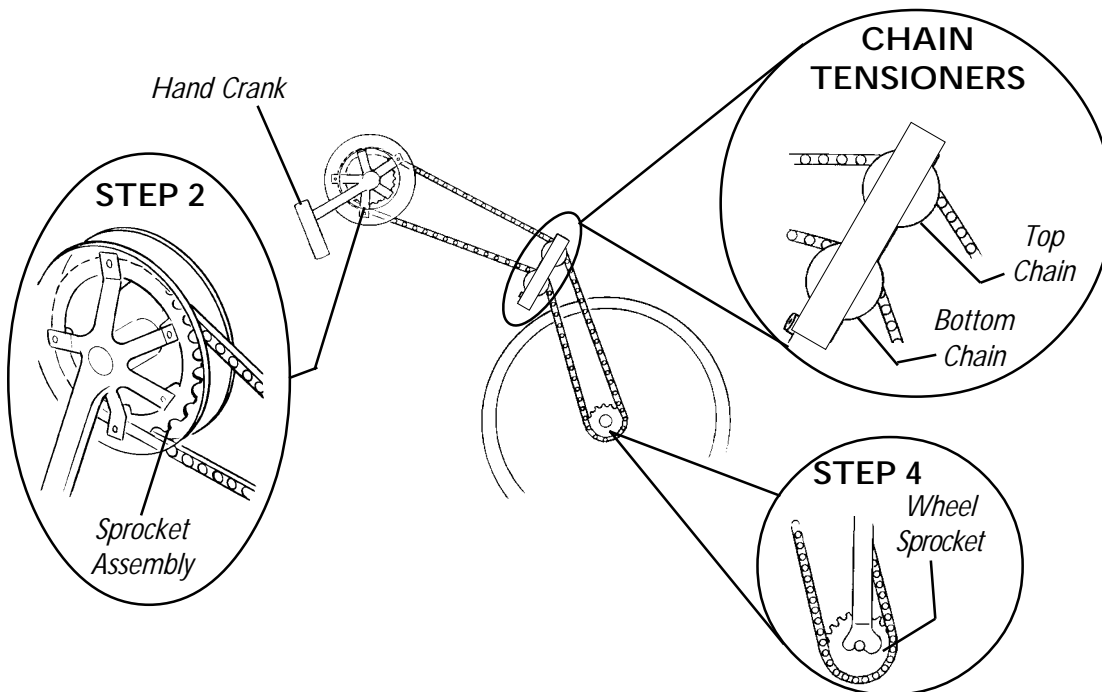

FIGURE 3 - SEVEN (7) SPEED HUB CHAIN INSTALLATION
## SEVEN (7) SPEED HUB CHAIN INSTALLATION (FIGURE 3)